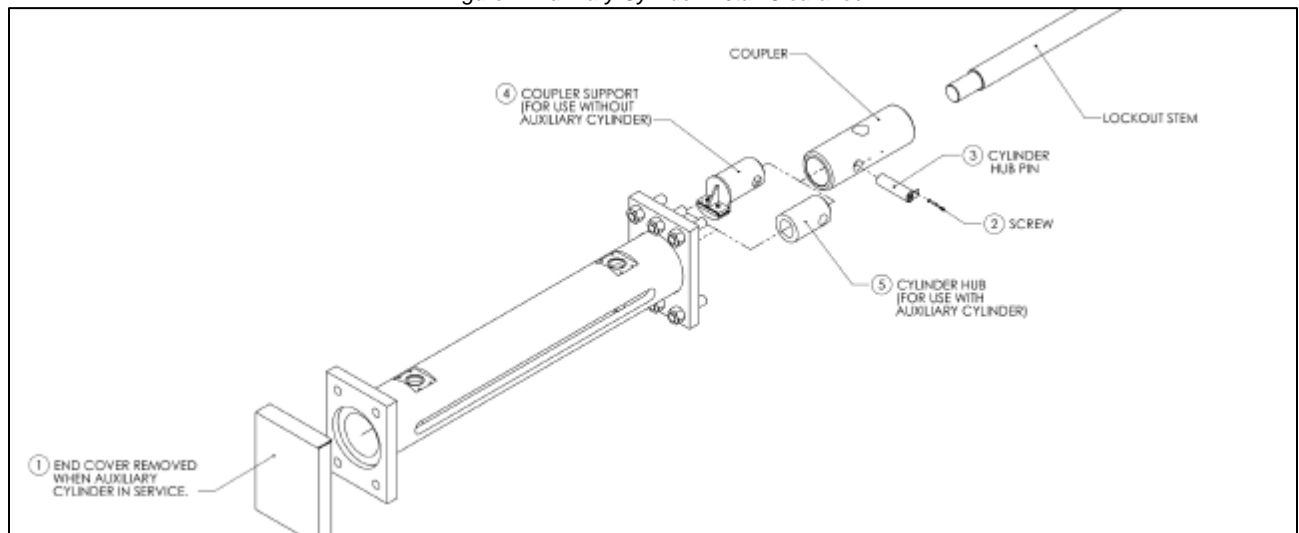

Figure 2: Lockout Tower Assembly
1. Remove the end cover on the back of the lockout tower (see figure 2).
5. Prepare the auxiliary cylinder by threading the cylinder hub onto the cylinder shaft (see figures 2 and 3). The cylinder hub should engage the cylinder shaft by 4-1/2 inches to accommodate maximum stroke.
10. Insert the cylinder hub pin and secure with screw (see figures 2 and 3).